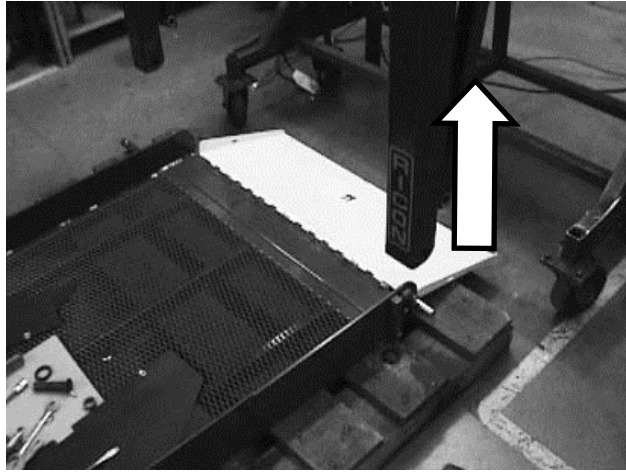

Figure 15. Raise Left Vertical Arm
16. Refer to **Figure 15**. Raise right vertical arm to detach from platform.